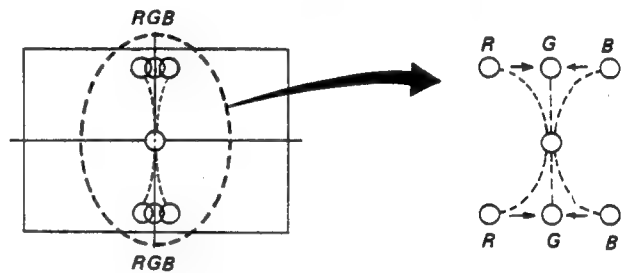

Fig. 1-19.
11. Adjust RV31 (UNDER SCAN Y. BOW) on the DC board to coincide with the R, G and B dots as shown in Fig. 1-19.